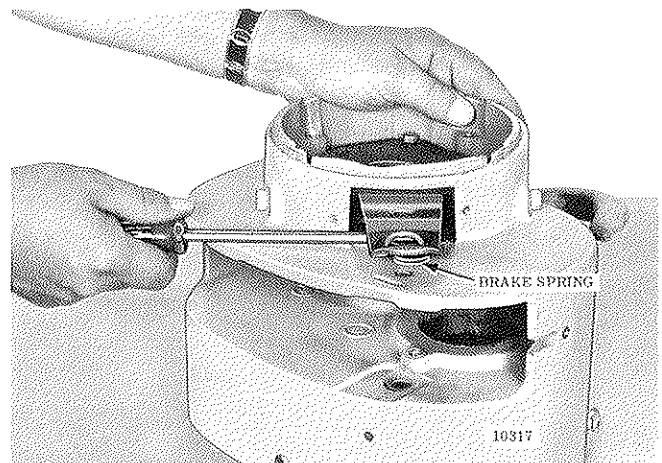

Figure 7-12. Prying Brake Spring from Under Brake Lever (Pull Cord Models)
(1) The brake cam, nut and cam spring were removed in par. b., (5), above.
(2) Pry brake spring from under lever using a screw driver (fig. 7-12).